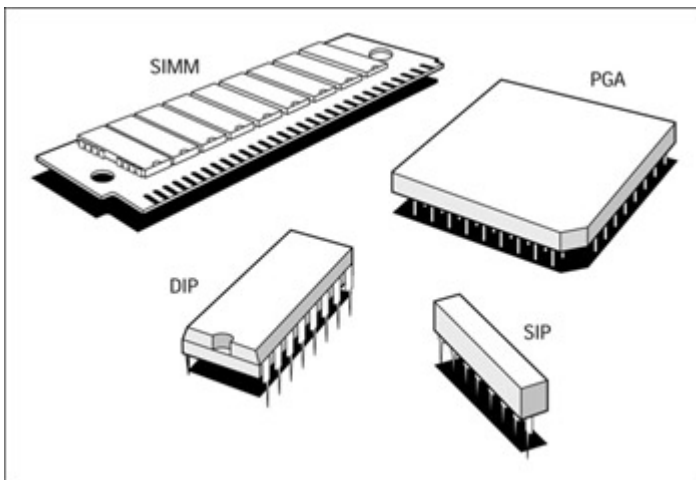

Figure 7-2: A comparison of the more popular pin-mounted chip packages.
- 1 **Pin Grid Array (PGA):** Common among early processors, the mounting pins are located on the bottom of the chip in concentric squares. Figure 7-2 shows the difference between this package and other packages. The earliest chips were packaged in the Ceramic PGA (CPGA). Later chips, including some current ones, use the Plastic PGA (PPGA). The early Pentium chips used a variation that staggered the pin pattern (in order to cram more pins onto the package) called the Staggered PGA (SPGA). The Pentium III features a variation of the PGA package with its Slot 370-like Flip Chip-Pin Graphics Assembly (FC-PGA).